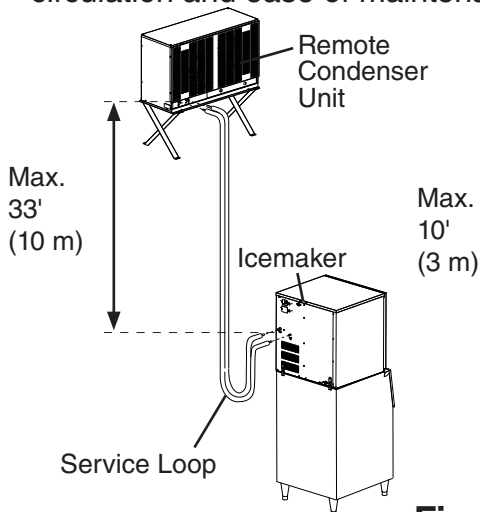

Fig. 11
- The maximum vertical distance between the remote condenser unit and the icemaker is 33' (10 m) above or 10' (3 m) below the icemaker. These distances are measured fitting to fitting. See Fig. 11.
1) Route the factory line set or appropriate size copper tubing. When field fabricating, insulate the copper tubes separately. Leave a service loop behind the icemaker to allow the icemaker to be pulled out for service. See Fig. 11.